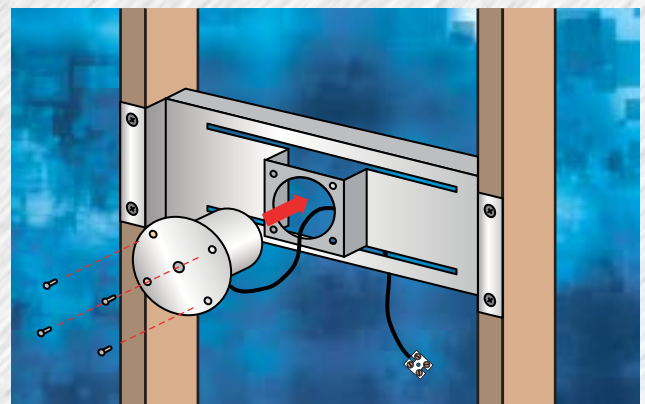

figure 2. SolidDrive SD1 being installed into mounting bracket.
Feed the SolidDrive SD1 cable through the round opening in the face of the mounting bracket. Insert the SolidDrive SD1 through the same opening with the oversized mounting base facing outward toward the side that the drywall will be installed and flush against the bracket face. Align the pre-drilled holes in the mounting base to the threaded holes in the bracket face (Figure 2). Attach the SolidDrive SD1 securely to the mounting bracket using the four (4) flat head machine screws.